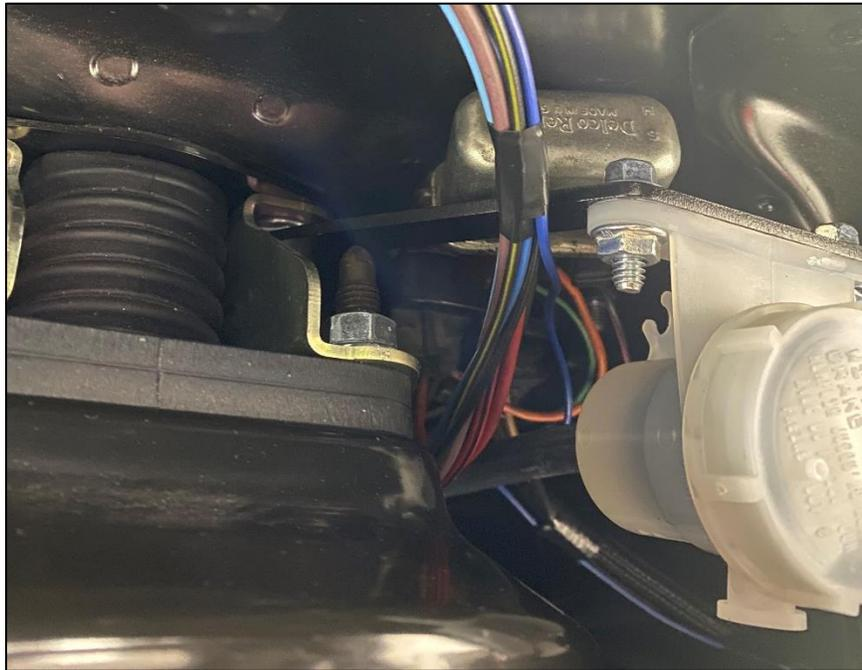

Figure 6: Clutch Master Cylinder Reservoir Mount Location
23. The clutch master cylinder reservoir will mount to the back of the booster mount as shown in Figure 6.